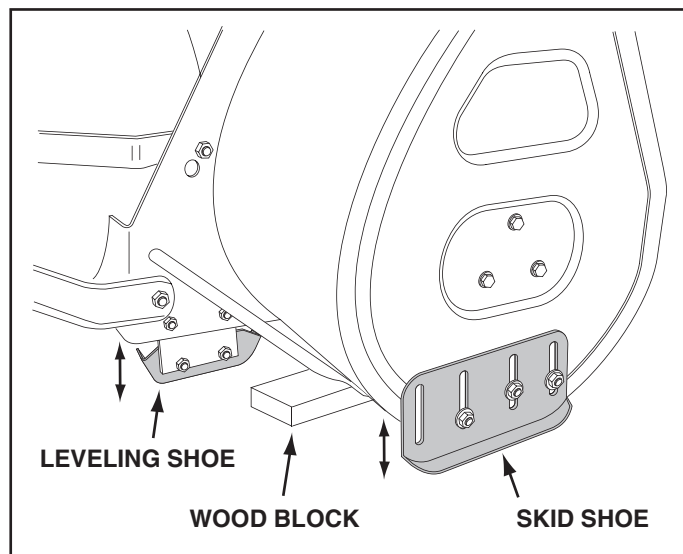

FIGURE 28
- To adjust the skid shoes, raise the snow thrower off the ground and place a wood block under each end of the scraper plate. Loosen the six hex nuts securing the skid shoes to the housing. Adjust the skid shoes up or down to the desired position and tighten the nuts securely. Both skid shoes should be the same height to keep the housing and the scraper plate level. See figure 28.
- The skid shoes may be turned to face either in or out. In order to obtain the lowest setting, where the scraper blade fully contacts the ground, the skid shoes must be facing out as shown in figure 28.
- Before adjusting the leveling shoes, make sure the skid shoes are properly adjusted. With the snow thrower in the lowered position, loosen the bolts which fasten the leveling shoes to the thrower and adjust the leveling shoes to solidly contact the ground. Retighten the bolts. See figure 28.